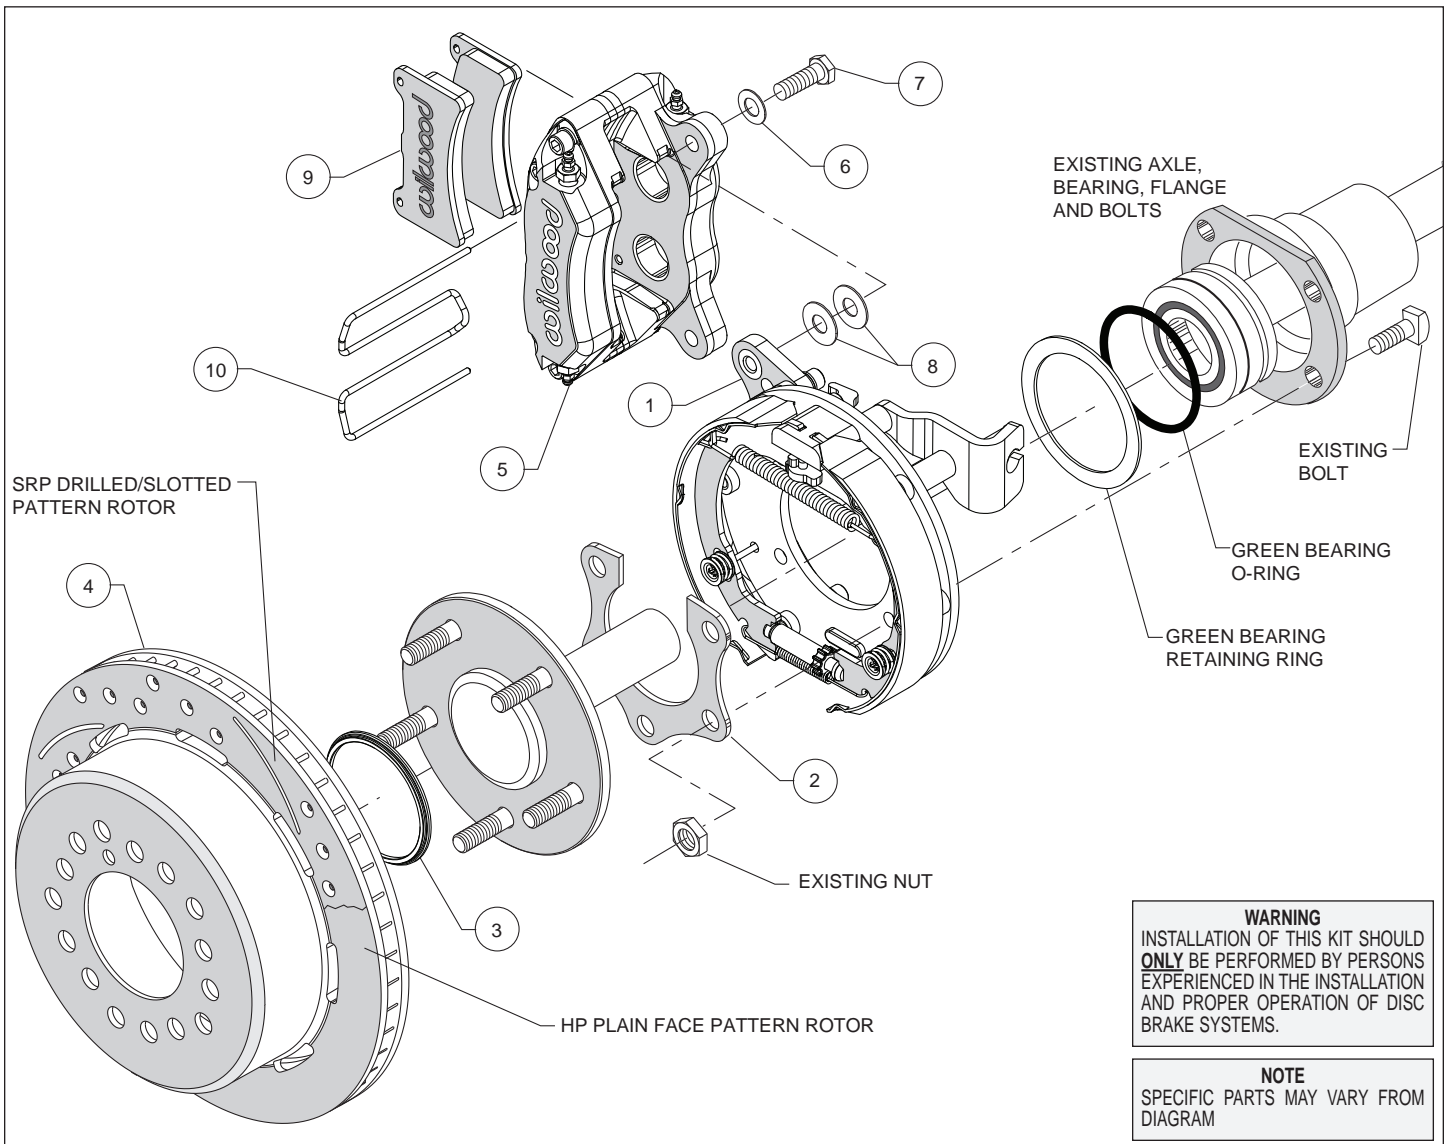
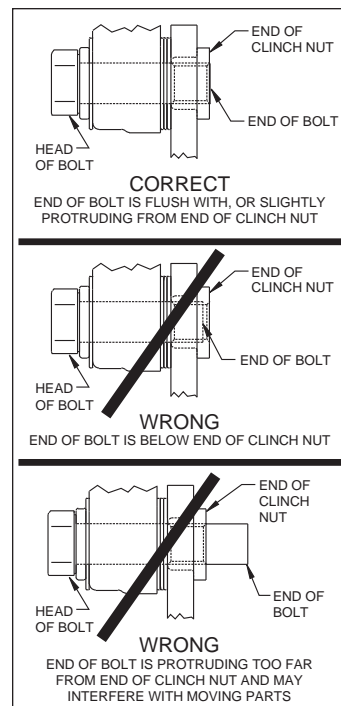

Figure 3. Typical Installation Configuration
Figure 7. Clinch Nut Engagement Diagram
Assembly Instructions (numbers in parenthesis refer to the parts list, and Figure 3 on the preceding pages): **CAUTION:** All mounting bolts must fully engage clinch nuts. Be sure to check that all bolts are either flush or protruding through flanged side of clinch nut after shimming, Figure 7.
- Temporarily remove the retaining ring and o-ring from the bearing. Use care so as not to damage those components. Orient the bracket assembly (1) as shown in Figure 3 and Photo 1 and slide it onto the axle and past the bearing. Reinstall the retaining ring and o-ring onto the bearing, again using care. Insert the axle and bracket into the axle housing. Ensure that the bracket assembly backing plate fits flush against the axle housing flange. **NOTE:** The bearing retaining ring should be sandwiched between the axle housing flange and the new bracket assembly.
- Install the bearing retainer (2) with the opening pointing upward and the bearing relief step facing inward (toward the bearing), as shown in Figures 3 and 6, and Photo 2. Secure retainer and bracket assembly to the axle housing flange using the Original Equipment Manufacturer (OEM) bolts and nuts, Figure 3. Apply red *Loctite*® 271 to the OEM bolt threads and torque to OEM specifications.
- Slide the rotor registration adapter (3) onto the axle register on the axle flange with the smaller O.D. facing toward the rotor/hat (4), Photo 3. Align the correct hole pattern in the rotor/hat with the stud pattern on the axle flange and slide into place, Figure 3 and Photo 4. **NOTE:** The rotor/hat must fit flush against the axle flange or excessive rotor run out may result. Install three lug nuts (finger tight) to keep the rotor/hat assembly in place while continuing with the installation. **NOTE:** Some OEM and after market axles come with stud sizes larger than 0.50" diameter. Verify stud size and have a qualified machine shop drill the bolt circle of the hat/rotor to the correct stud size, if necessary.
- **NOTE:** Please reference the caution statement at the beginning of the assembly instructions. Mount the caliper (5) onto the caliper mounting bracket (1) using bolts (7) and washers (6), as shown in Figure 3. Initially place two .035" thick shims (8) on each bolt between the caliper and the bracket, Photo 5. Temporarily tighten the mounting bolts and view the rotor (4) through the top opening of the caliper. The rotor should be centered in the caliper, Photo 6. If not, adjust by adding or subtracting shims between the bracket and the caliper. Always use the same amount of shims on each of the two mounting bolts. **NOTE:** The end of each bolt must be flush with or slightly protruding from the head of the clinch nut, as shown in Figure 7. If necessary place spare shims between washer (6) and caliper mounting ear to achieve the proper clinch nut engagement. Once the caliper alignment and clinch nut engagement are correct, remove the bolts one at a time, apply red *Loctite*® 271 to bolt threads, and torque to 40 ft-lb.